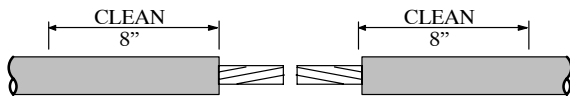

FIGURE 2
2. Clean the cable insulation/jacket with the cleaning pads provided. See Figure 2.